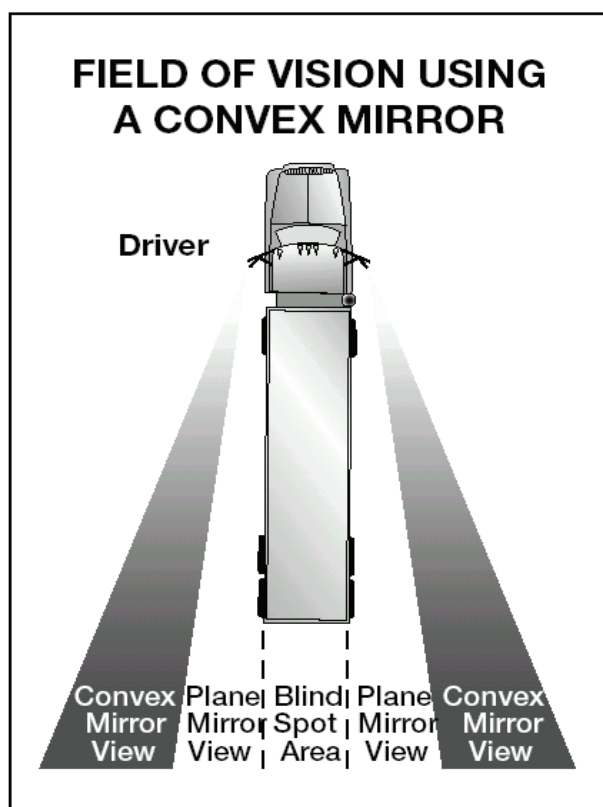

Figure 2.7
- Many large vehicles have curved (convex, “fish-eye,” “spot,” “bugeye”) mirrors that show a wider area than flat mirrors. This is often helpful. But everything appears smaller in a convex mirror than it would if you were looking at it directly. Things also seem farther away than they really are. It's important to realize this and to allow for it. Figure 2.7 shows the field of vision using a convex mirror.